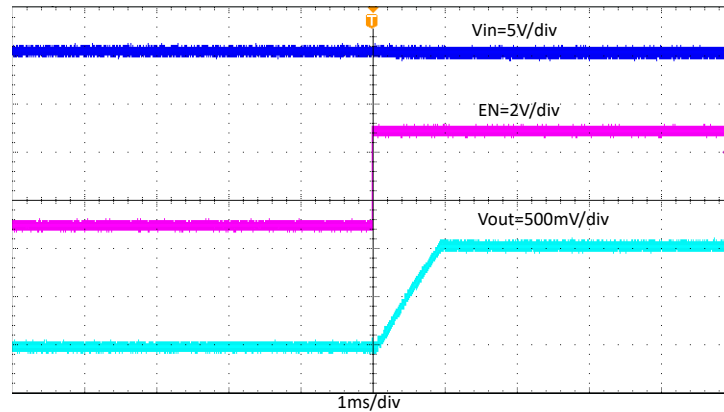

Figure 4-10. TPS566242EVM Start-Up Relative to EN
Figure 4-10 shows the TPS566242EVM start-up waveform relative to enable (EN). Load = 6 A